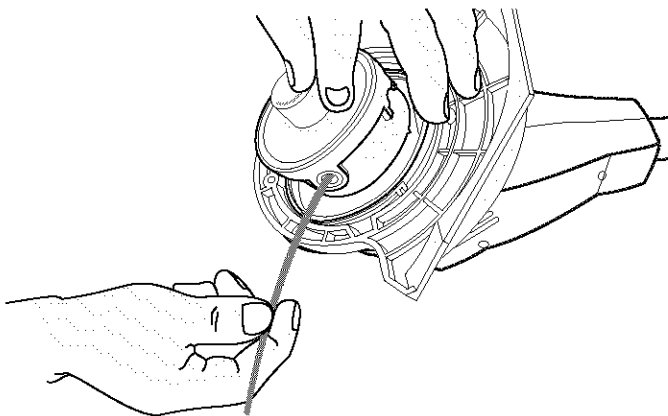

Fig. 16
10. Hold the inner reel in place, grasp the line end and pull firmly to release the line from the holding slot in the inner reel (Fig. 16).
7. Hold the inner reel in place, grasp the line end and pull firmly to release the line from the holding slot in the inner reel (Fig. 16).